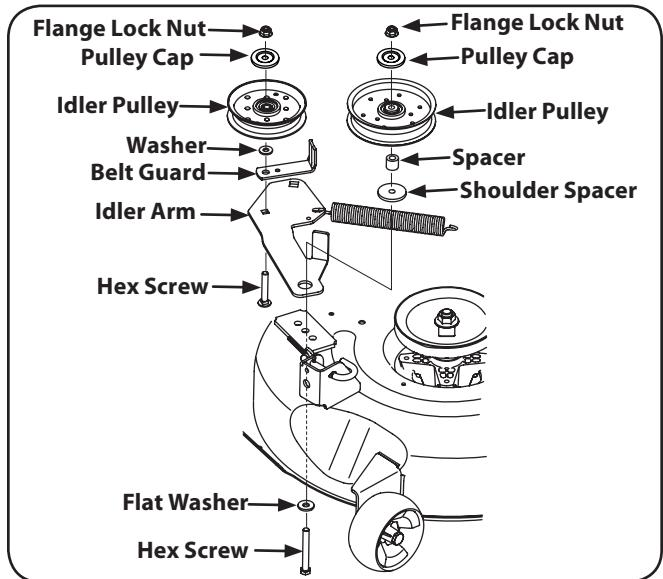

Figure 7-11
3. Remove the two idler pulleys by removing the hex screws and flange lock nuts that secure them to the deck and the idler arm. See Figure 7-11. Do not lose any of the hardware when removing the hex screw and flange lock nut.
- Place the belt around the idler pulleys removed in step 3 with the "V" side facing in. Once in place, reinstall all the hardware and tighten the flange lock nut to secure the assembly. See Figure 7-11.
- Route the belt as shown in Figure 7-11 and then reinstall the deck (refer to Deck Installation on page 29).